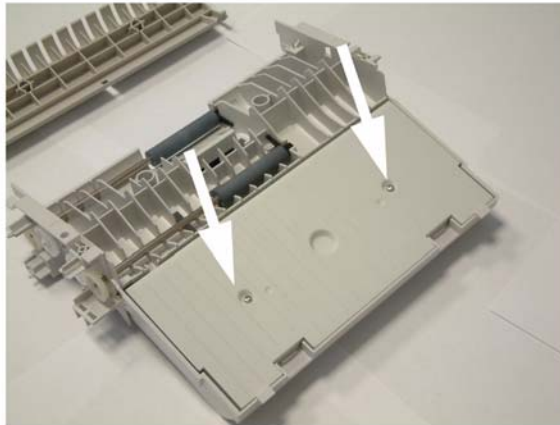

Figure 1
2. Remove the 2 mounting screws of the lower cover and remove it, Figure 1.